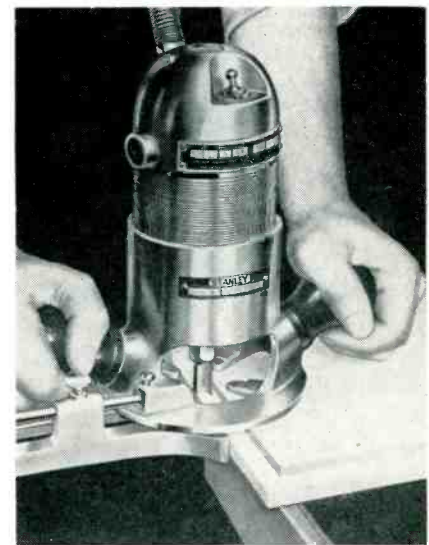

Fig. 2. Rabbetting with a straight bit.
5. Start on one side or the end and move the router to make the cut (Fig. 2).